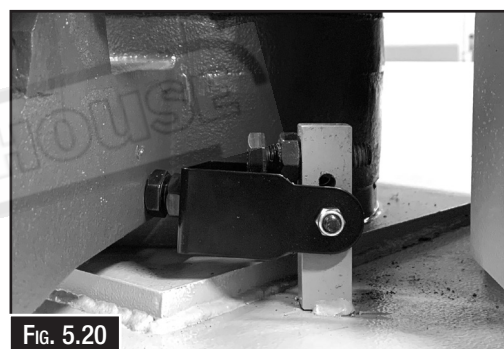

Fig. 5.20
2. Flip the 45 degree fast angle stop over (Fig. 5.20) and turn the saw arm to 45 degree making sure that the body of the machine is hard up against the stop.
**⚠ WARNING** Before the angle is set, the large yellow guard (Fig. 5.20) at the rear of the machine over vice area needs to be removed. Ensure this guard is fitted back on when resetting the machine for any angle 45° or under.